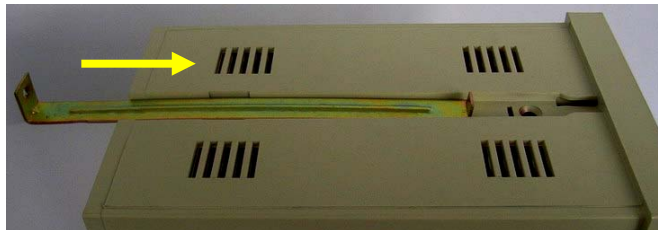

Figure 7. Insert the long bracket
5.2.2 Insert the long bracket into the slot on upside and downside of Flow Readout Box (figure7).